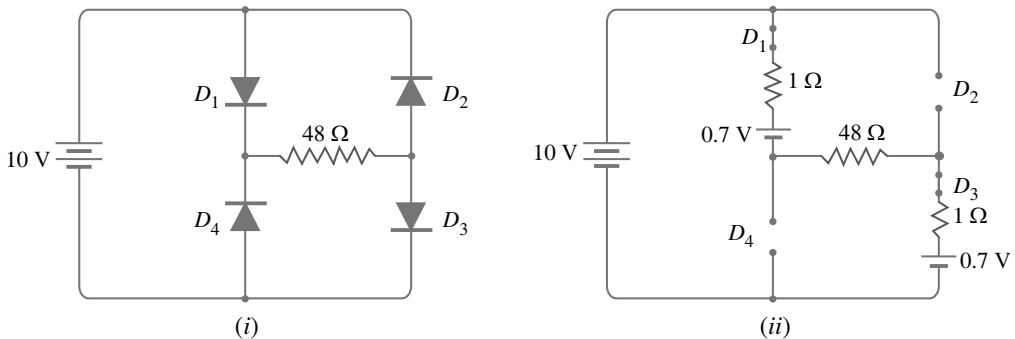

Fig. 4.16
**Example 4.14.** Calculate the current through 48Ω resistor in the circuit shown in Fig. 4.16 (i). Assume the diodes to be of silicon and forward resistance of each diode is 1Ω.
**Solution.** Diodes  $D_1$  and  $D_3$  are forward biased while diodes  $D_2$  and  $D_4$  are reverse biased. We can, therefore, consider the branches containing diodes  $D_2$  and  $D_4$  as "open". Replacing diodes  $D_1$  and  $D_3$  by their equivalent circuits and making the branches containing diodes  $D_2$  and  $D_4$  open, we get the circuit shown in Fig. 4.16 (ii). Note that for a silicon diode, the barrier voltage is 0.7V.